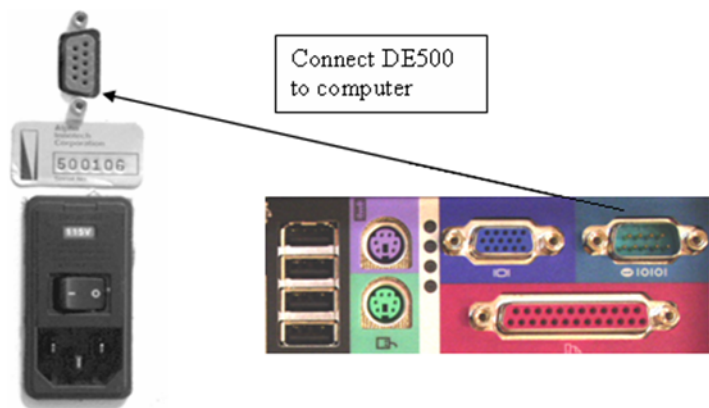

Figure I-3: Cabinet Setup
6. AlphaView provides cabinet controls through the software. An RS-232 cable that is supplied with the cabinet is required for this purpose. Locate the RS-232 cable insert it into the corresponding socket, next to the power connect, and power switch on the rear of the DE500 (see Figure I-3).